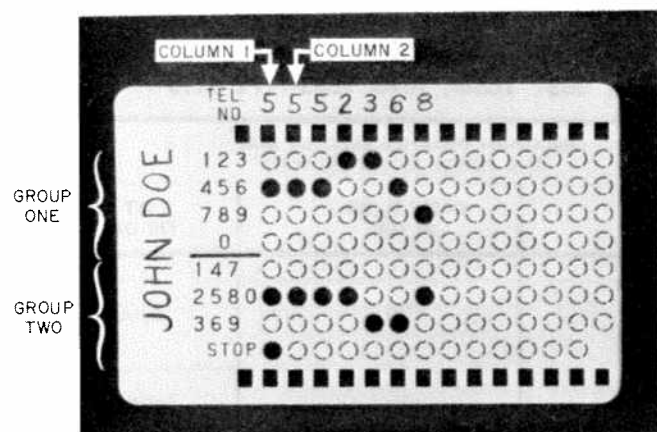

Fig. 7 — Card Coded for 7-Digit Telephone Number
6.01 It is important to properly punch and check cards for accuracy to ensure satisfactory results. (See Fig. 7 and 8.)
- (1) Write name and telephone number in spaces provided as shown in Fig. 7 and 8.
- (2) Convert exchange letters to numbers. For example: use 2 for A, B, or C and 7 for P, R, or S.
Note: There are two groups of numbers 1 through 0 on the card. (See Fig. 7.)
- (3) In Fig. 7 the first digit of the telephone number is 5. In column 1, locate digit 5 in the first group of numbers and punch out the perforation with a pencil or ballpoint pen. In the same column, locate digit 5 in the second group of numbers and again punch out the perforation.